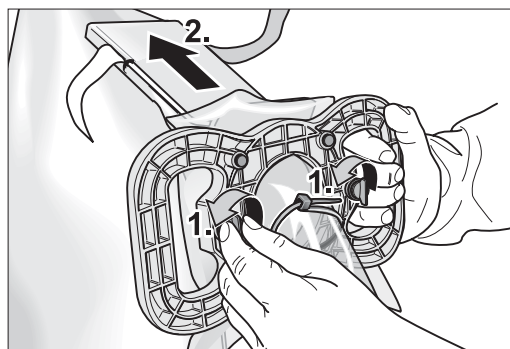

Fig. 22 Loosen the quick-release fasteners and remove the dust bag.
- 15 Open the two quick-release fasteners on the emptying fixture (Fig. 22).
- 16 Remove the emptying fixture from the dust bag. Keep the dust bag tilted at a slight angle to prevent any residue dust falling back into the dust bag (Fig. 22).